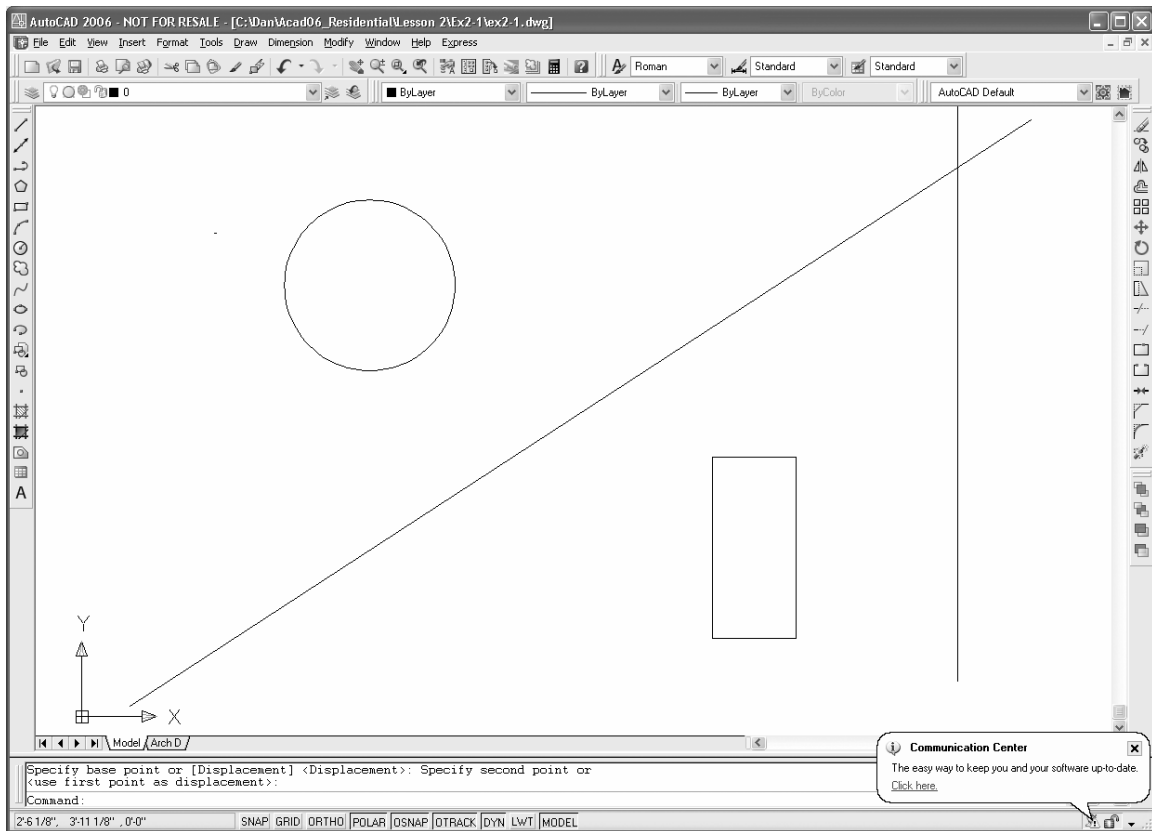

Figure 2-1.15 Drawing with Circle added
31. Type **6-5/8** and then press **Enter** (this equals 6 5/8"). (Figure 2-1.15)